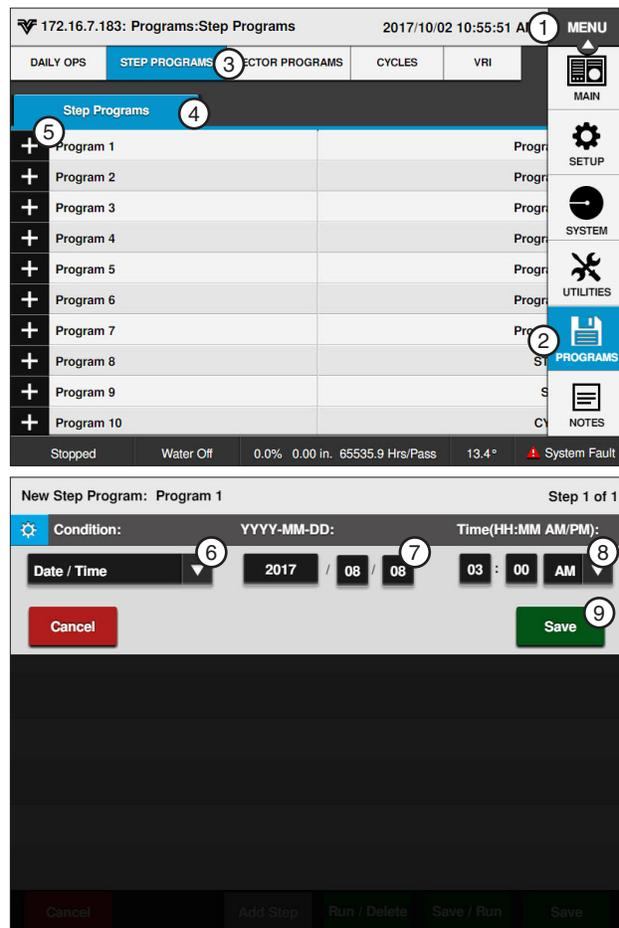

Figure 104-2 1. Menu 2. Programs 3. Step Programs 4. Step Programs 5. New Program 6. Date/Time 7. Date 8. Time 9. Save
2. Push the **New Program** button corresponding to the preferred program number as shown in Figure 104-2.
- a) Select the **Choose Condition** drop-down menu and choose **Date/Time**. Refer to Figure 104-2.